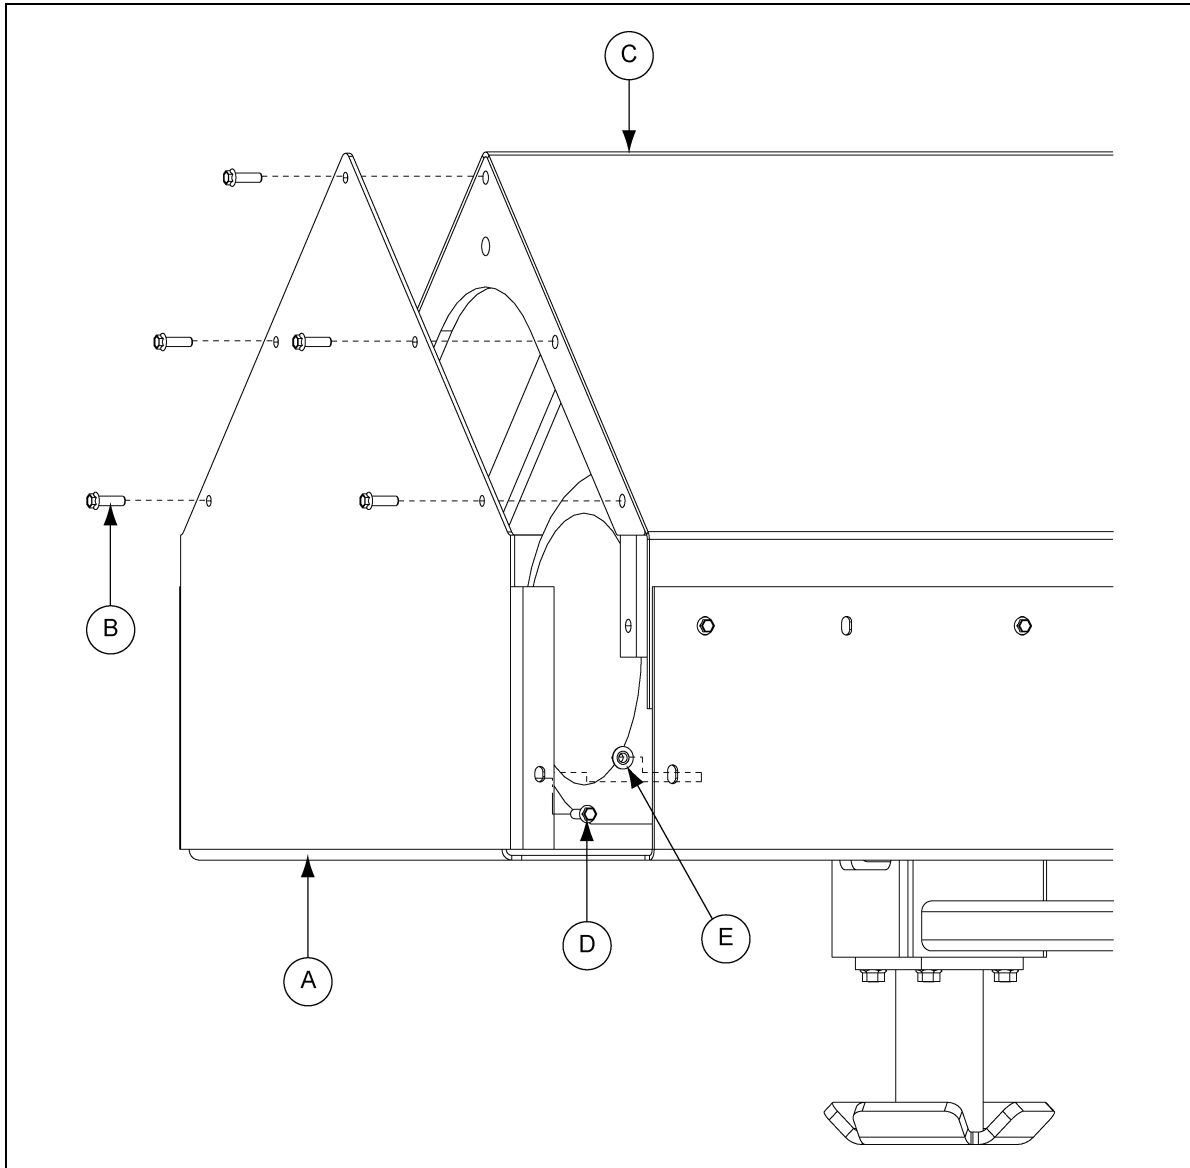

Figure 7AH
1. Attach auger motor rear cover (A) to the auger motor hood (C) and install hex bolts (B).
2. Install hex bolts (D) and hex nuts (E) to each side of the auger motor hood (C). (See Figure 7AH.)